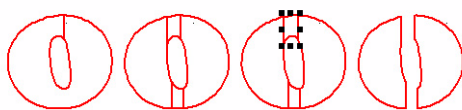

Figure 163
- 4 Remove unnecessary pieces by selecting the sections and deleting them. See figure 163.